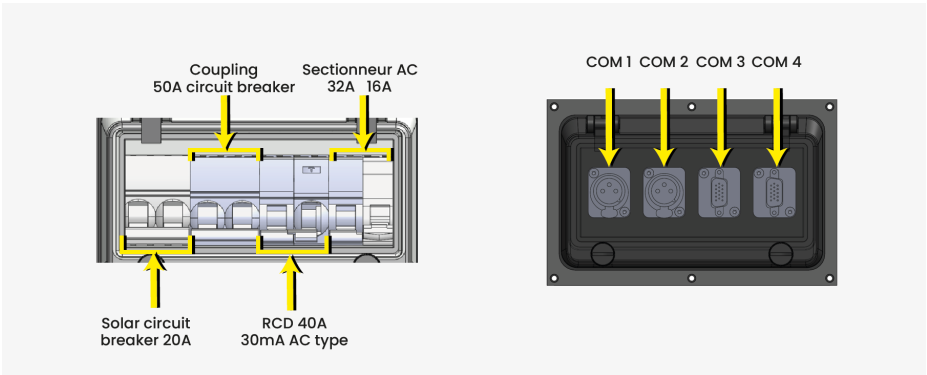

Figure 4 : Circuit breaker & coupling communication connectors
- 1) Lower/position the «PV IN» circuit breaker to «OFF» (see III.3. Figure 4) before connecting the PV system